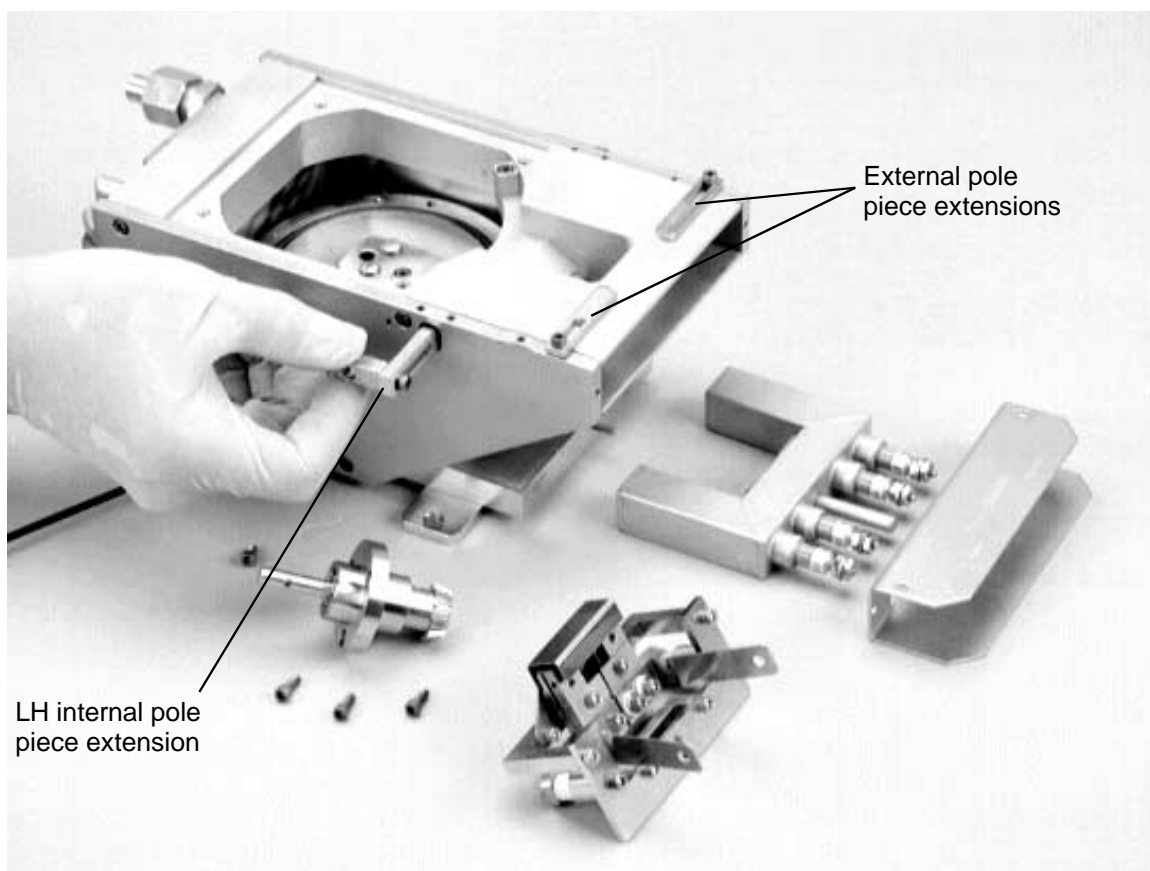

Figure 6-10. Withdrawing the external pole-piece extension
Step 10: Pull the internal pole piece extension out of the source, as shown in Figure 6-10.